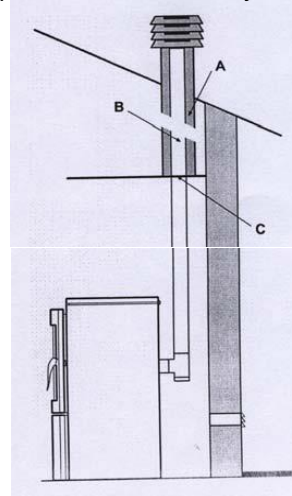

Figure 2
– Avoid any contact with easily combustible material (such as wooden beams), and in any case these should be insulated with fire resistant material (see Figure 2).